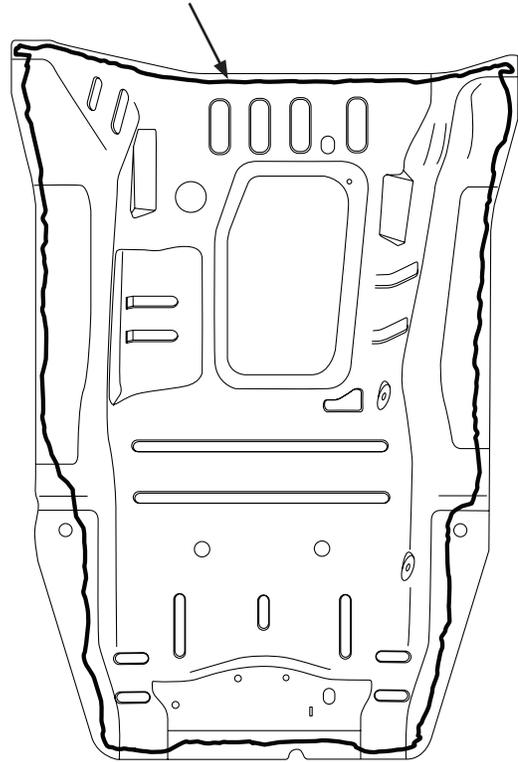

FIGURE 2
- Twelve (12) rivets to dash panel.
- Twelve (12) rivets (six (6) per side) to the floor pan.
- Eight (8) rivets to center floor reinforcement.
- Four (4) rivets to the #1 crossmember.
- Black triangles represent the location for rivets (W702512-S900C) thirty-six (36).
- Black squares represent the location for rivets (W708777-S900C) one (1) per side.
- (Refer to Figure 2) for location for adhesive material.
NOTE: The location of SPR and adhesive shown below are based on the original production drawings and should only be used as a guideline. (Refer to Figure 2).